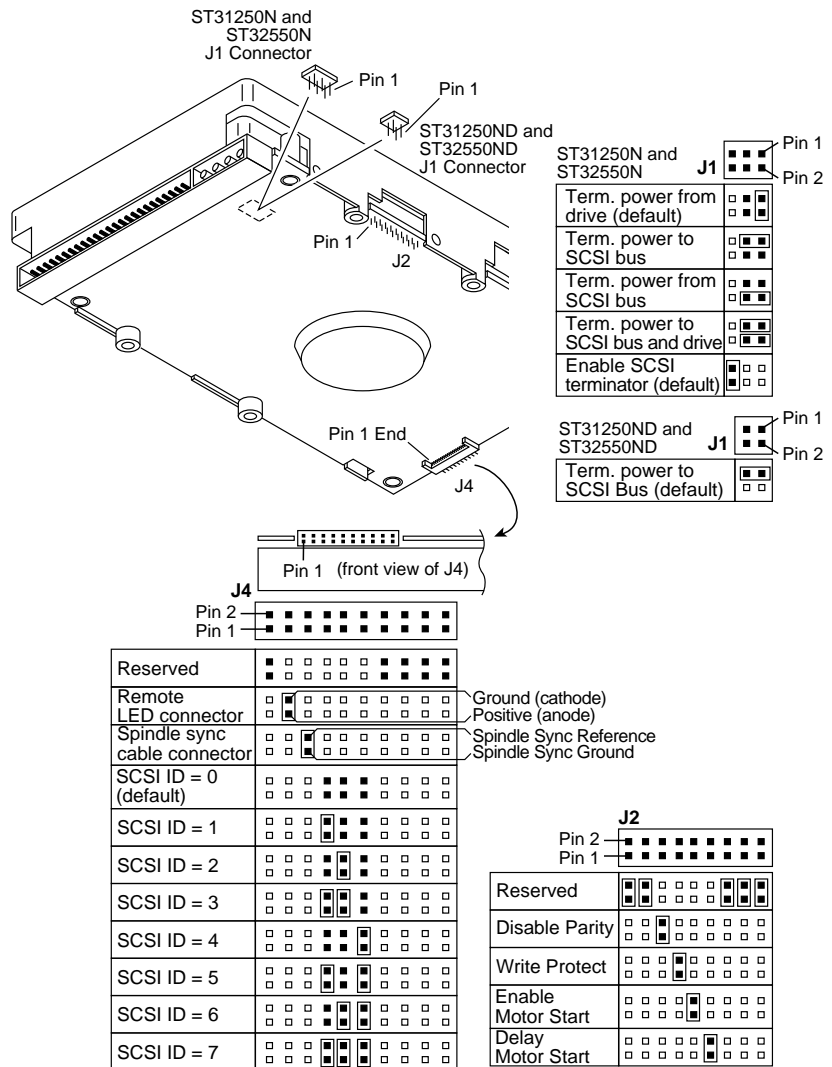

Figure 19. ST31250N/ND and ST32550N/ND jumper connectors
Figure 19 illustrates ST31250N/ND and ST32550N/ND jumper connectors.
*See Figure 19 to set the SCSI ID.